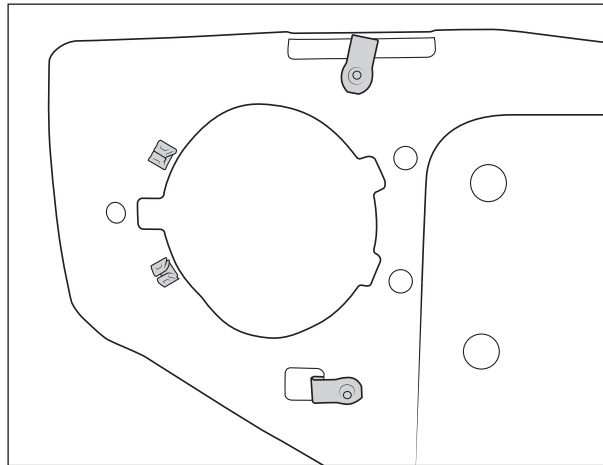

Figure 2
- i. Install provided U-nuts to outer fairlead stamping as shown (fig. 2).
- i. Install provided U-nuts to fairlead stamping as shown (fig. 2).
- i. Install provided U-nuts to fairlead in top and bottom holes as shown (fig. 2)
- i. A. Install provided U-nuts to fairlead stamping as shown (fig. 2).